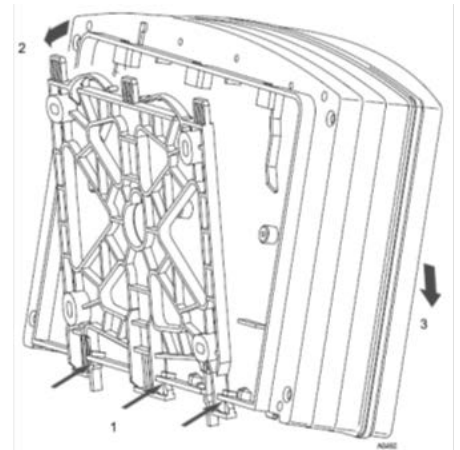

Figure 7C. Attaching the controller
1. Hook the bottom of the housing (1) into the wall bracket (Figure 7C)
2. Lightly press the housing at the top (2) against the wall bracket
3. Then check that the housing is hooked in at the top and press down (3) until it clicks into place.